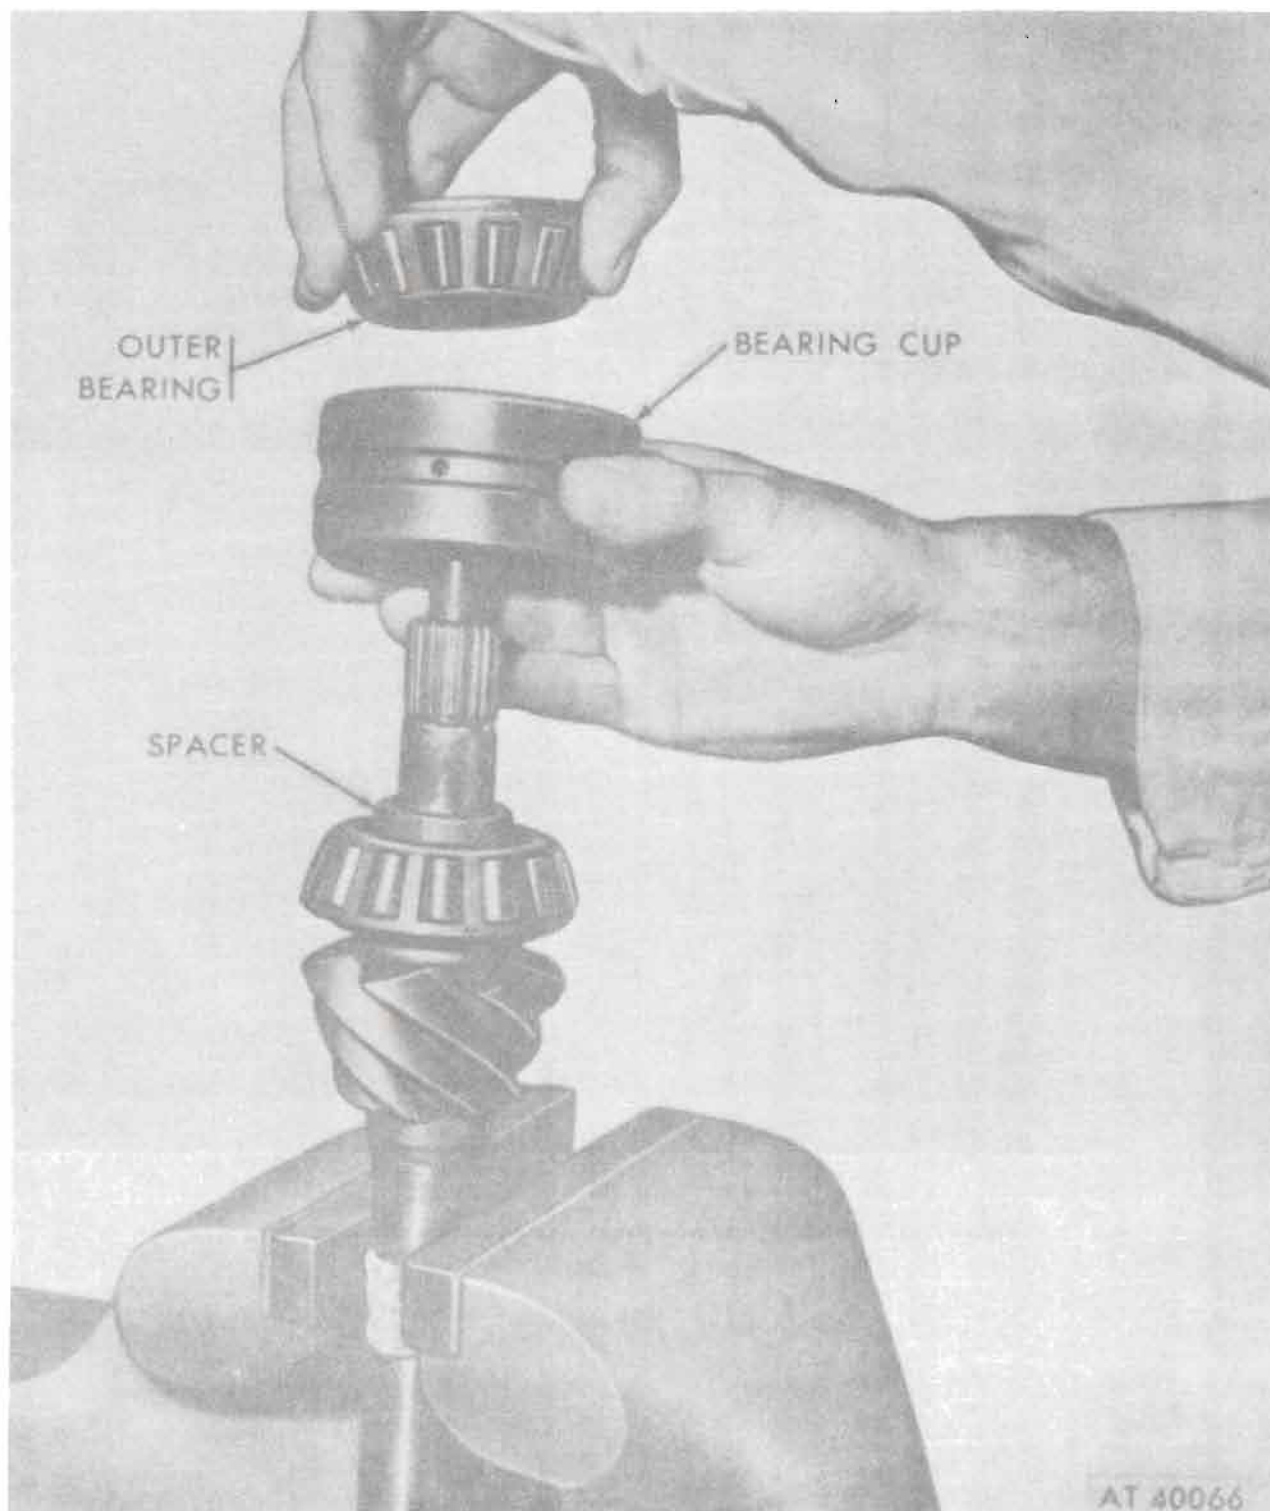

Figure 12-56. Position of spacer, bearing cup, and outer bearing on shaft.
b. Position spacer, bearing cup, and outer bearing on pinion shaft (fig. 12-56).